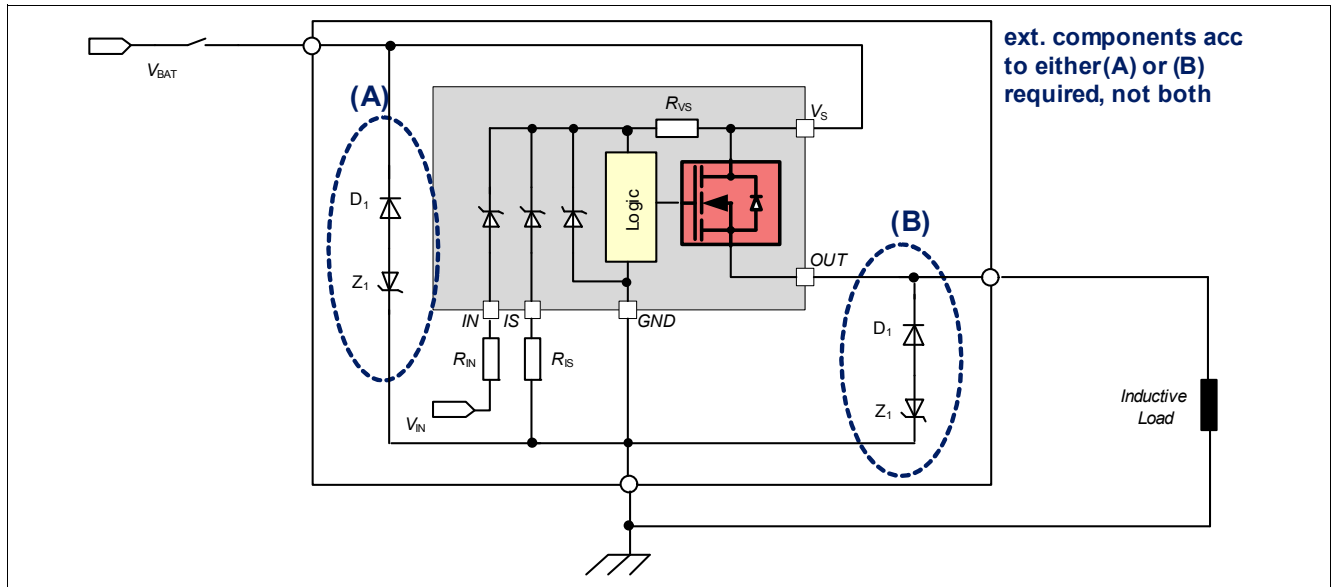
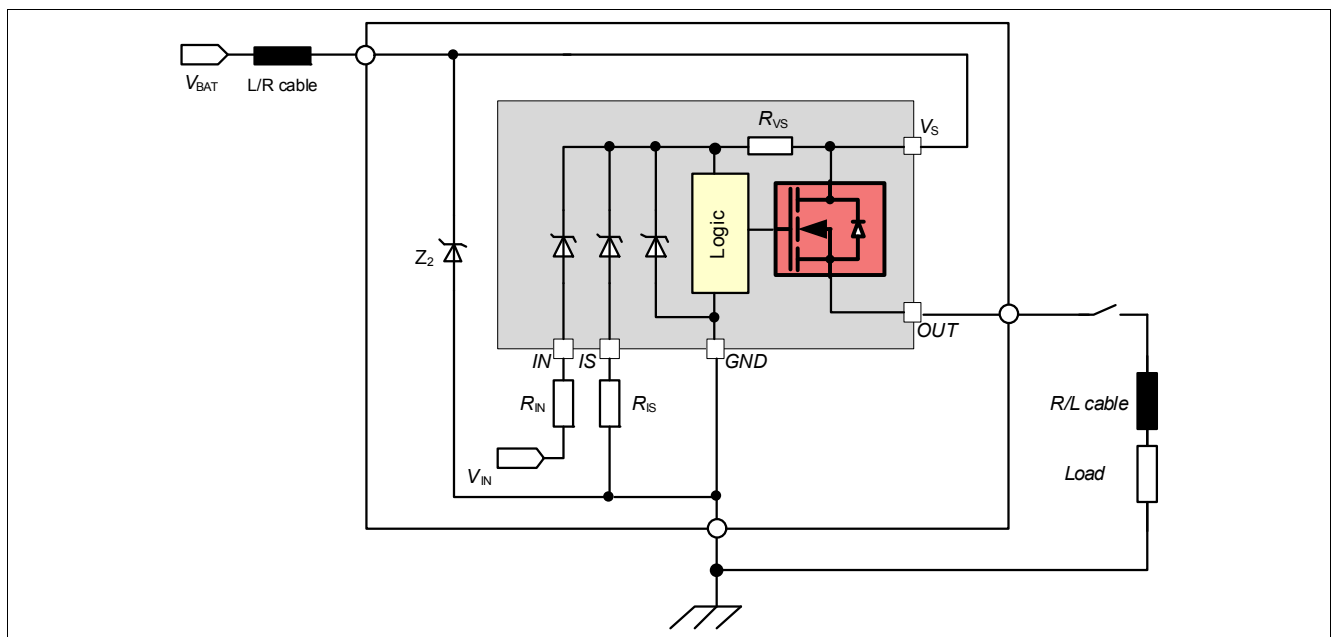

Figure 17 Loss of V_S
Figure 18 Loss of Load
In case of loss of V_S connection with charged inductive loads, a current path with sufficient load current capability has to be provided, to demagnetize the charged inductances. It is recommended to protect the device using a Zener diode together with a diode ($V_{Z1} + V_{D1} < 16\text{ V}$), with path (A) or path (B) as shown in **Figure 17**.
For higher clamp voltages, currents through all pins have to be limited according to the maximum ratings. Please see **Figure 17** and **Figure 18** for details.